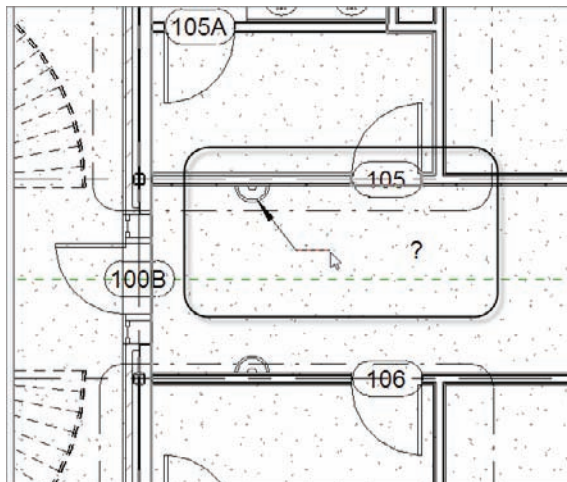

FIGURE 11.95 Placing the leadered keynote
- Pick the wall sconce shown in Figure 11.95.
7. Pick a third point to place the keynote text (see Figure 11.95).